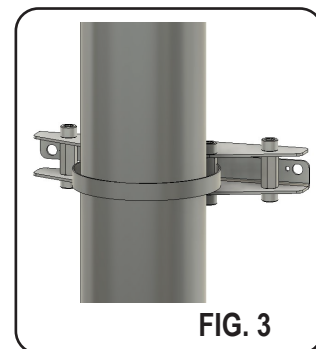

FIG. 3
**UVD1500:** Mount the unit using the cradle brackets provided. Select a screw (not supplied) appropriate to the mounting surface. System must be mounted to studs, masonry, or other surface capable of supporting the load of the UV chamber when filled with water. See FIG 3.